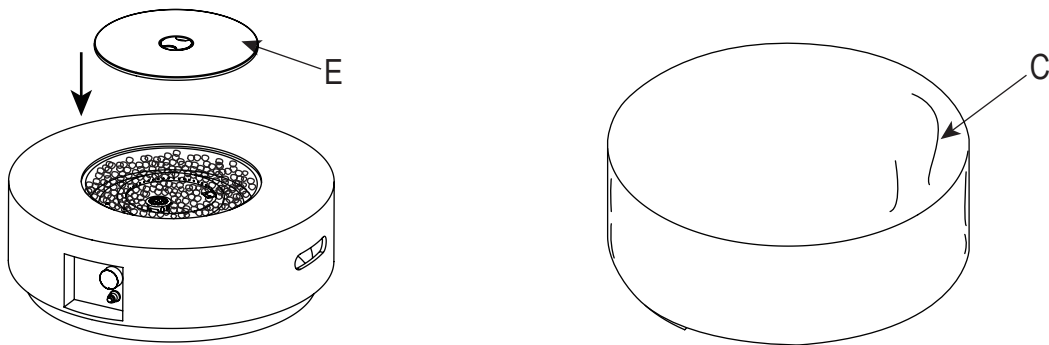

Figure 6
6. Once the firepit has cooled completely after use, carefully place the lid (E) onto the fire bowl and use the weather cover (C) to protect your fire pit from the elements (see Figure 6).